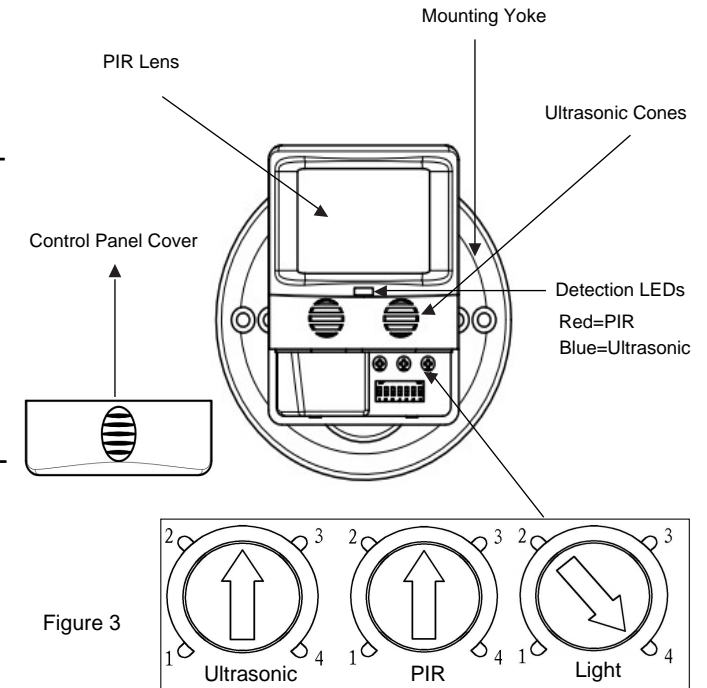

Figure 3
7. Locate the adjustment knob on the control panel to perform test and adjustment. (illustrated as Figure 3.)